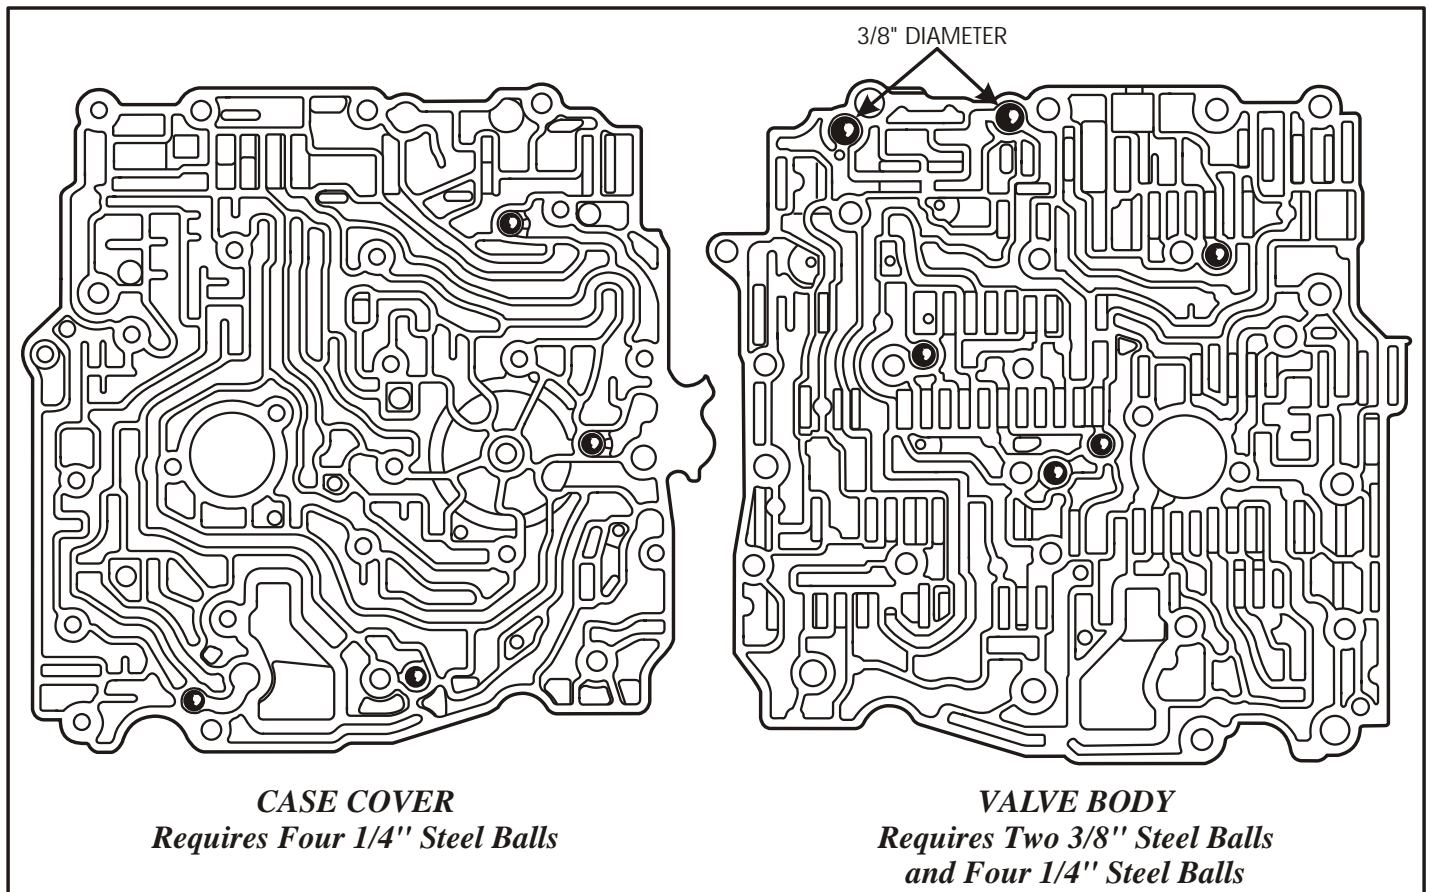

Figure 183
94. Install four .250" (1/4") diameter checkballs in case cover, in locations shown in Figure 183.
96. Install two .375" (3/8") diameter checkballs, and four .250" (1/4") diameter checkballs into valve body, in locations shown in Figure 183.